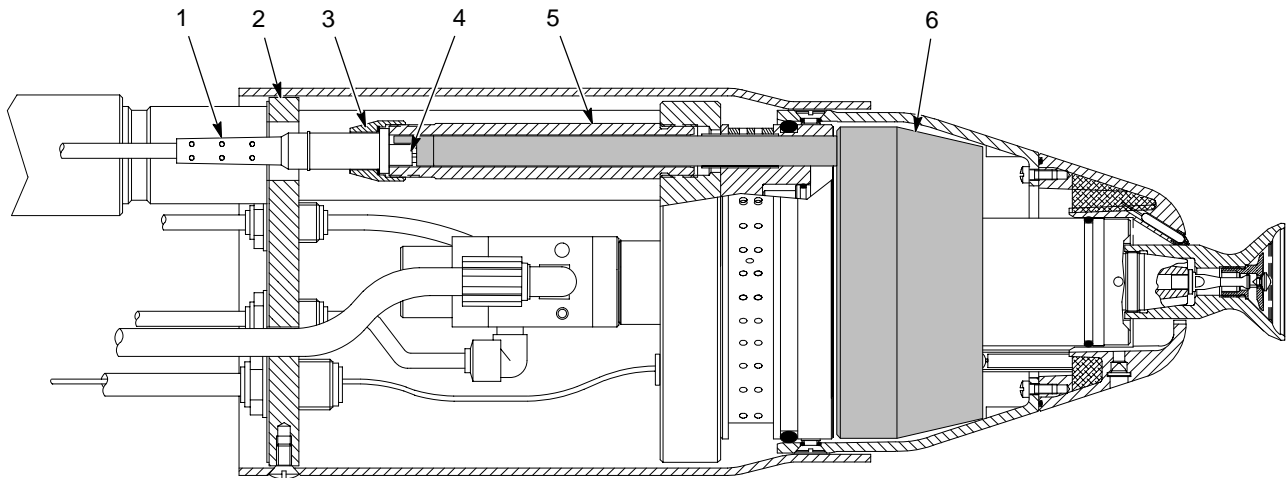

Figure 3-7 IPS Cable Installation
1. See Figure 3-7. Route the 15-ft IPS cable (1) through the CABLE hole in the rear mounting plate (2).
2. Connect the cable to the IPS multiplier (6). The multiplier has an extension with a three-pin connector (4) that is visible at the end of the IPS adapter (5). Thread the cable nut (3) onto the adapter and tighten it hand-tight.